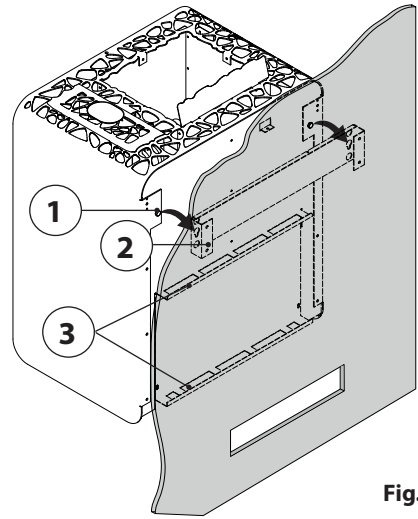

Fig. 6
- Hang the sauna heater with the two hexagonal heads (1) at the rear side of the heater into the wall bracket (2) and place it on the two spacers (3). (Fig. 6).